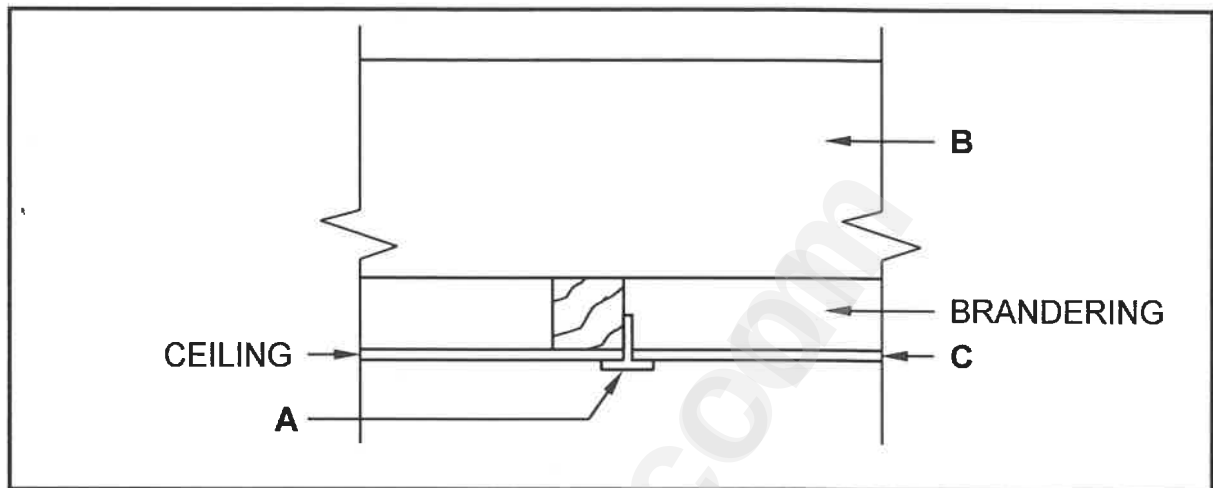

FIGURE 4.5
- 4.5 **Downloaded from eduresourceza.com** FIGURE 4.5 below shows a sectional view of a part of a trap door construction. Study the drawing and answer the questions that follow.